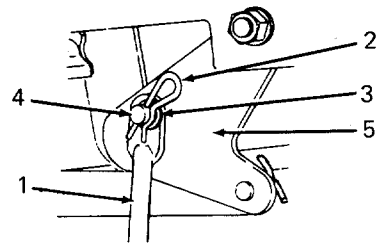

Figure 48
3. Secure each of the front lift links to the lift carriage lift pins using a flat washer and hairpin cotter. (Refer to Figure 48.)